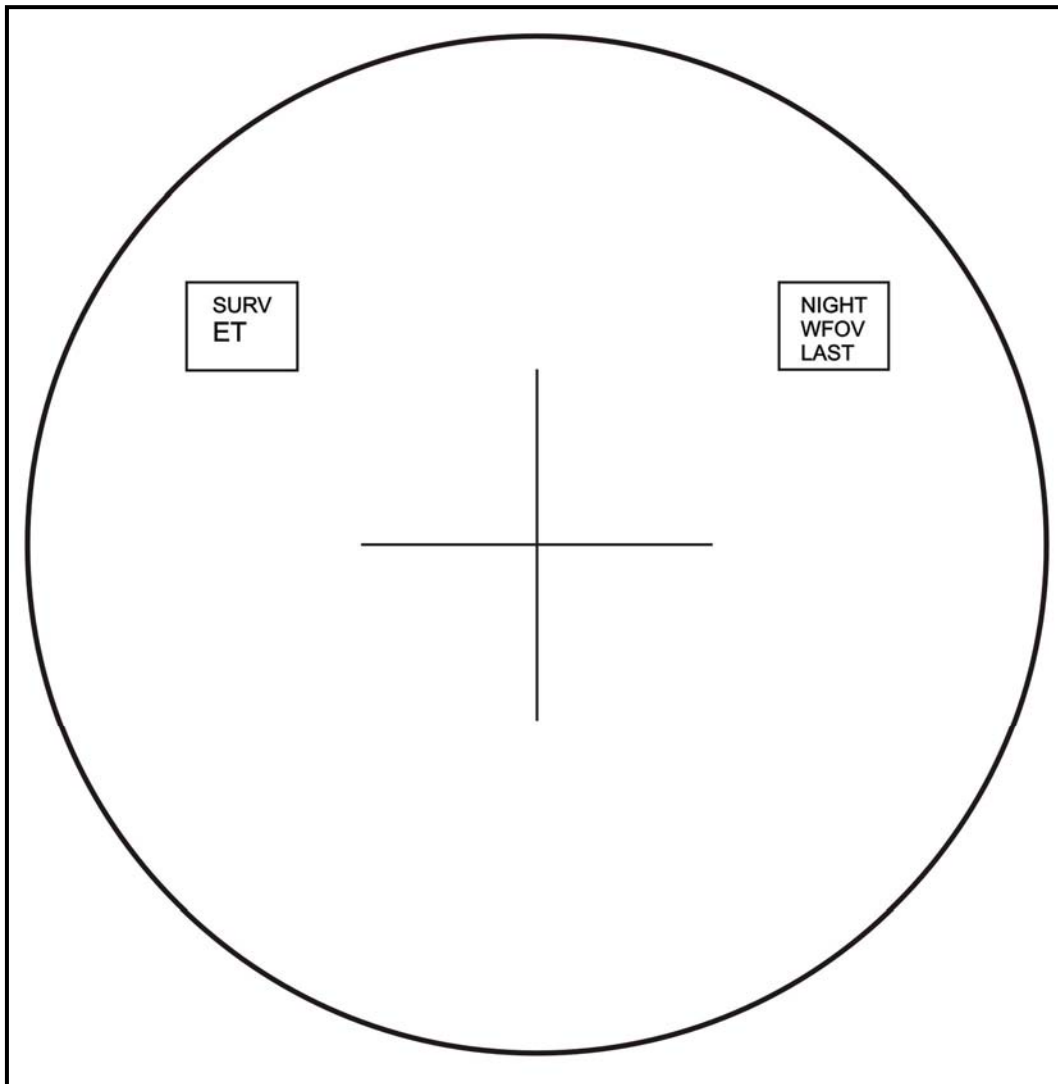

Figure 2-40. ET display.
- *TOW2A* or *TOW2B* will initiate the *ET* mode, remove the training menu, and place *ET* in the mode box (Figure 2-40, page 2-30).